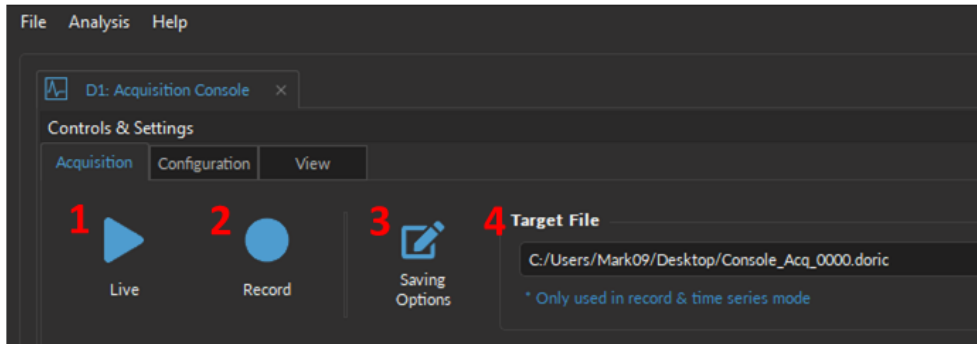
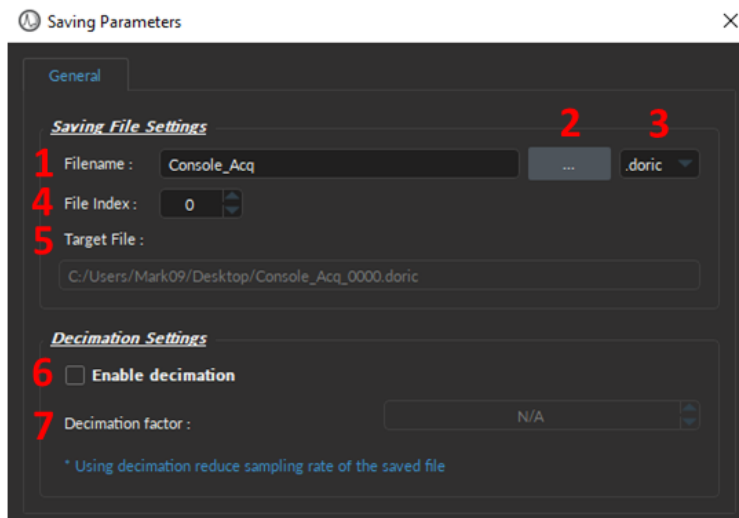

Figure 8.5: Acquisition Tab
Figure 8.6: Saving Menu Window
1. The **Live** button (Fig. 8.5, 1) activates all prepared channels. This mode does not save data, keeping only the most recent 700 000 data points in memory. This mode is not recommended for long or critical measurement sequences. **Live** mode is useful to quickly test the recording software and to ensure that the parameters were properly set.
2. The **Record** button (Fig. 8.5, 2) activates all prepared channels while periodically saving recorded data to the disk. This mode is recommended for long measurement sequences.
3. The **Saving Options** (Fig. 8.5, 3) button opens the **Saving Parameters** window (Fig. 8.6). See section 8.3.1.1 for greater details.
4. The **Target File** (Fig. 8.5, 4) displays the path and file name where the data will be stored once the **Record** button is selected. Select the **Saving Options** button to change the path and file name.
The **Saving Parameter** window is used to define how and where the file is saved. This window is opened by selecting the **Saving Options** button in the Acquisition Tab (Fig. 8.5, 3).
1. The **Filename** text-box lets users specify the name of the data file that will be saved (Fig. 8.6, 1).
2. The **[...]** button opens a File Explorer window where users can select the folder where the data will be saved (Fig. 8.6, 2).
3. The **File format** (Fig. 8.6, 3) is **.doric**, an HDF5-based format that supports metadata (signal, video, images, tables, parameters, etc.). Version 6 of *Doric Neuroscience Studio* is no longer compatible with other file formats (.csv, .excel, or .tiff). We provide Matlab, Python, and Octave codes to read **.doric** files HERE. While not recommended, it is possible to export a **.doric** file into .csv format through the **Doric File Reader** module.
4. The **File Index** (Fig. 8.6, 4) box is used to define the current indexation number used for multiple files saved during the same measurement session. The suffix is incremented automatically when recording multiple files.
5. The **Target File** (Fig. 8.6, 5) displays the absolute path and filename where the data will be saved.
6. The **Enable decimation** checkbox (Fig. 8.6, 6) provides a way to reduce the file sizes. This method conserves points averaged over a number of data points equal to the **Decimation Factor**.
7. The **Decimation factor** text-box (Fig. 8.6, 7) is used to define the number of points saved.¹
- *Software Command* - The recording will start when the **Record** button is selected in the **Acquisition Tab** (Fig. 8.5, 2). The **Master Start** is, by definition, always **Manual**.
The **Time Series** Window (Fig 8.9b) can be opened by clicking on the **Record** button (Fig. 8.5, 2) when the **Master Trigger** is in **Time Series** mode in the **Global Settings** window (Fig. 8.8, 2). Every **Time series** sequence is automatically saved to the .doric file defined in **Saving Options** (Section 8.3.1.1).